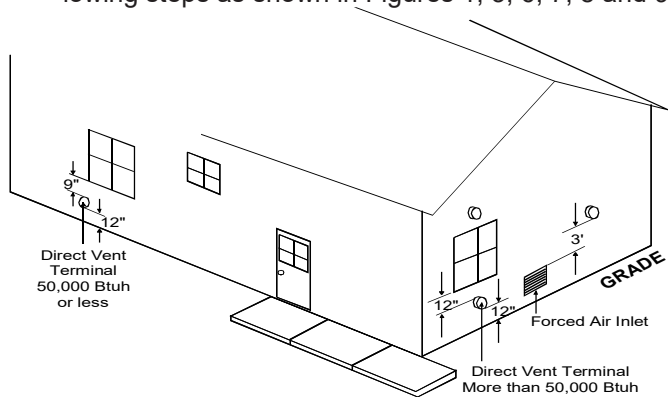

Figure 1
1. Determine termination locations based on clearances specified in furnace installation instructions, and following steps as shown in Figures 1, 3, 6, 7, 8 and 9.